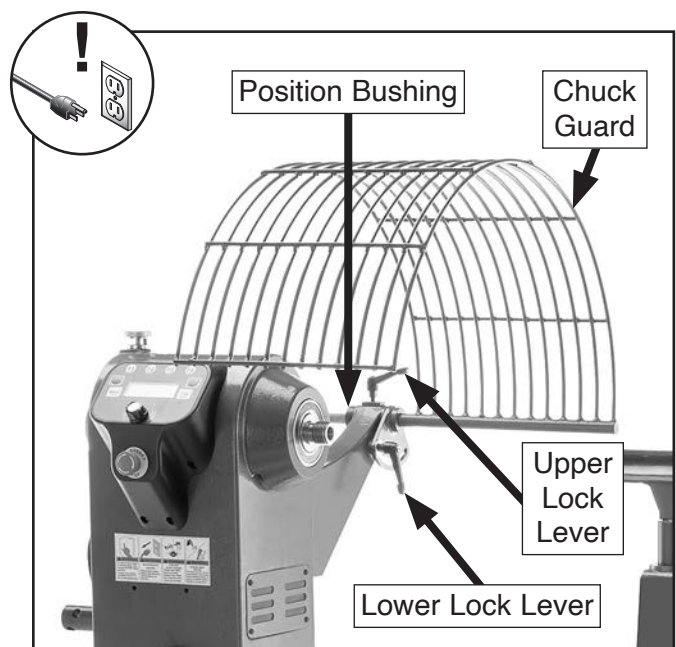

Figure 78. Chuck guard mounting components.
3. Loosen upper lock lever on headstock mounting arm (see **Figure 78**).
4. Remove lower lock lever (see **Figure 78**).
5. Loosen set screw on position bushing then remove bushing (see **Figure 78**).
6. Remove chuck guard and set aside (see **Figure 78** on **Page 45**).